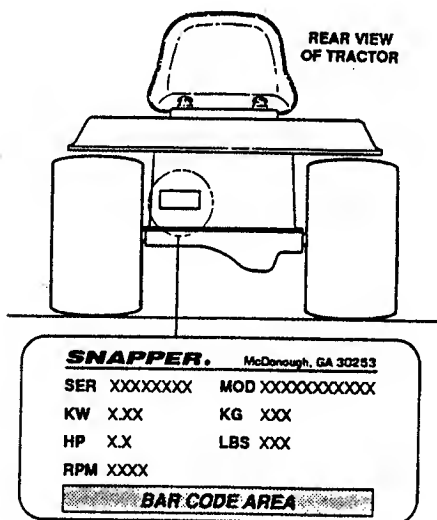

FIGURE 1
**STEP 1:** To determine the horse power and series designation of your lawn tractor, locate the serial/model identification decal on the tractor. The decal is located at the rear of the tractor. See Figure 1. The identification of the model will be used in certain steps in this instruction. The most important information needed from this decal is: 1) Series of tractor, 2) Horse power of engine.